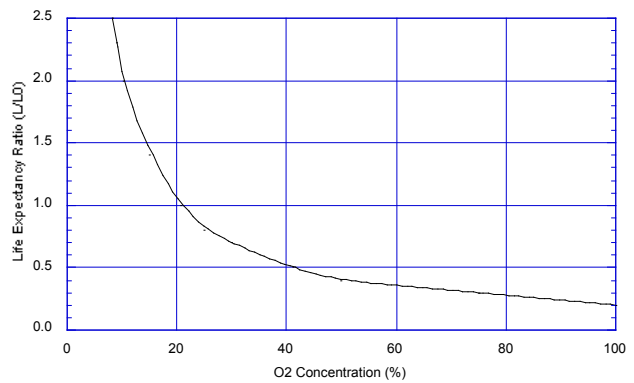

Fig. 9a - Relationship of life expectancy vs. O2 concentration (L0 = life at 20.7% O2)
Figure 9a shows the relationship between life expectancy and O2 concentration for SK-25F. The Y-axis indicates the ratio of life expectancy in a given O2 concentration (L) to life expectancy at 20.7% O2 (L0). The greater the O2 concentration, the shorter the life expectancy. The influence of atmospheric pressure on life expectancy is estimated based on the O2 concentration in a given atmospheric pressure.